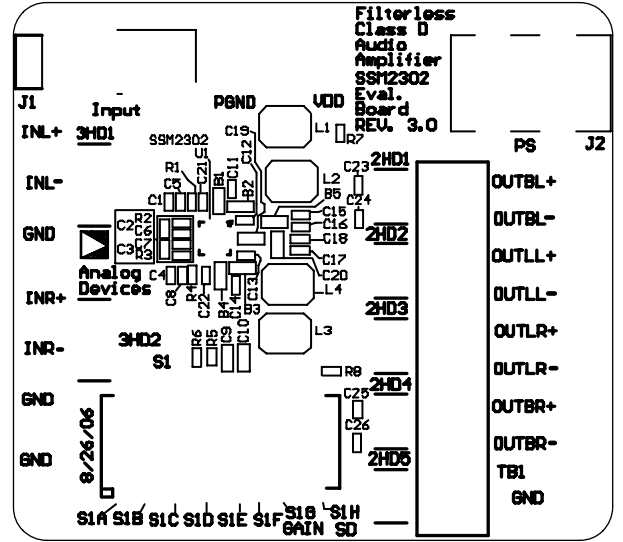
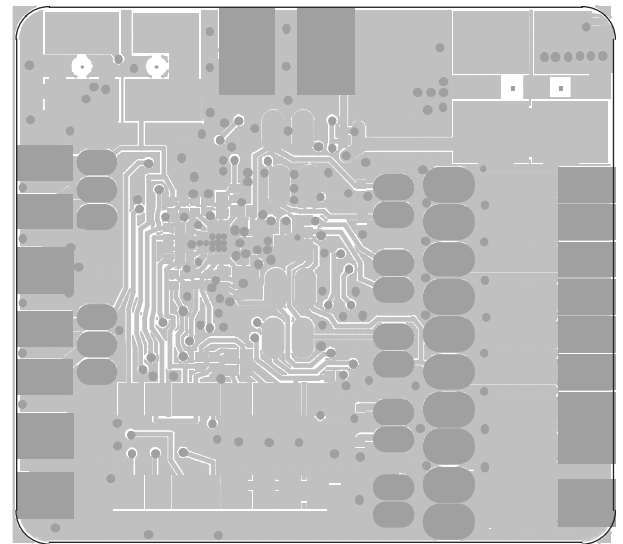
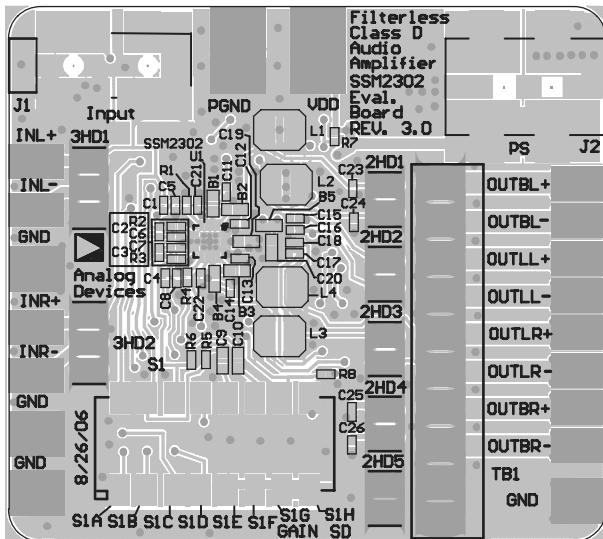
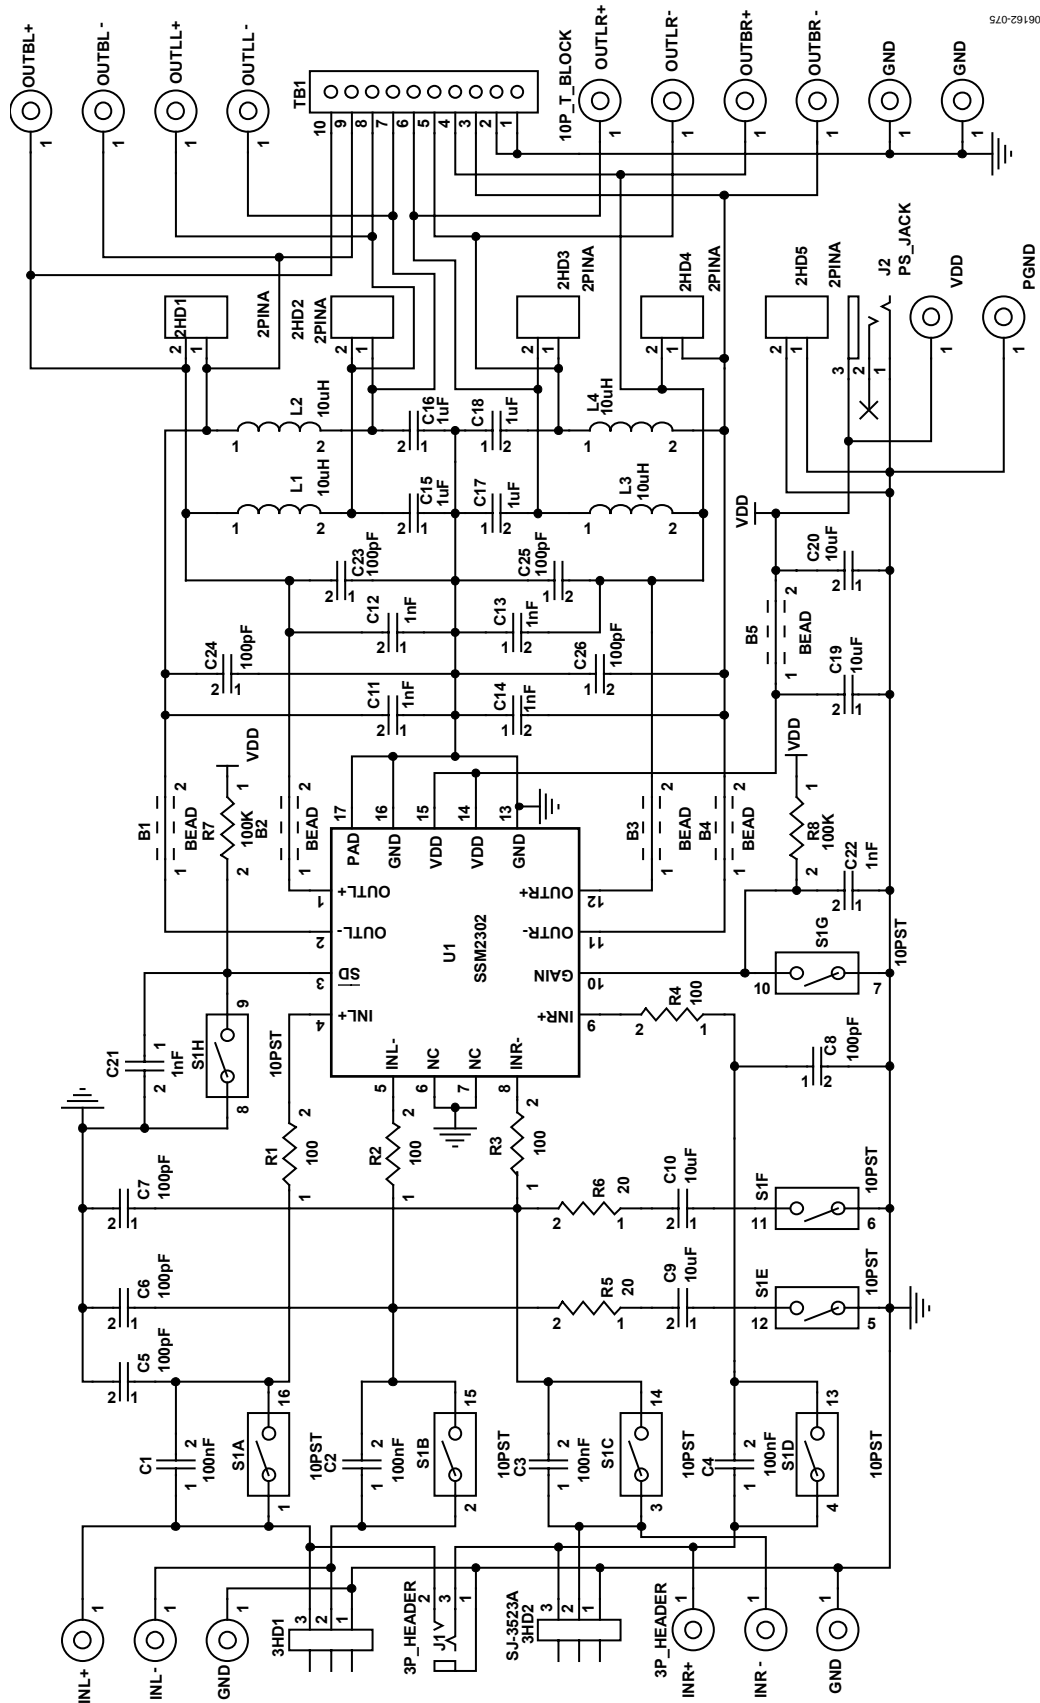

Figure 42. Top Silkscreen
Figure 43. Top Layers Without Top Screen Layer
Figure 41. Top Silkscreen Layer with Other Top Layers
Figure 46. Schematic of SSM2304 Evaluation Board Rev. 3.0
The silkscreen layer of the evaluation board is shown in Figure 41 with other top layers, including top copper, top solder mask, and multilayer (vias).
Figure 42 shows the top silkscreen layer only. There is no component in the bottom side; therefore, there is no bottom silkscreen layer.
Figure 43 shows the top layers without the silkscreen layer.
The schematic is shown in Figure 46.
On the upper left corner of the schematic shown in Figure 46, there is an audio stereo jack connector (3.5 mm), J1. This jack is compatible with standard stereo audio signals. It uses a conventional audio stereo signal connector/cable to obtain audio signals from common appliances, such as DVD players, personal computers, TVs, and so on. Because this connector only provides single-ended audio signals, turn Switches S1E and S1F to the upper positions when this input connector is utilized to ac short circuit the negative input ports to ground (see the schematic in Figure 46).
All the output ports are located on the right side of the board and marked with the corresponding names. Please see the legend on the board in Figure 42 and the schematic in Figure 46.
1. Place nine vias onto the thermal pad of the amplifier. The outer diameter of the vias should be 0.5 mm and the inner diameter should be 0.33 mm. Use a PCB area of at least 2 cm × 2 cm or an equivalent area on the back side of the PCB layer as the heat sink (see Figure 41, Figure 42, and Figure 43). If there are internal layers available within the PCB, allocate an area as large as possible for the ground plane(s) and connect these vias to the plane(s).
8. Decouple the input port nodes and the digital pins, Pins 3, 4, 5, 8, 9, and 10, with small capacitors, such as 100 pF. These capacitors are not necessary, but can lower the EMI from these pins. The ground terminals of these capacitors should be connected to the chip ground as close as possible (see Figure 41, Figure 42, and Figure 43).
10. Connect the ground pins, Pins 6, 7, 13, and 16, to the thermal pad and place grounding vias as shown in Figure 41, Figure 42, and Figure 43.